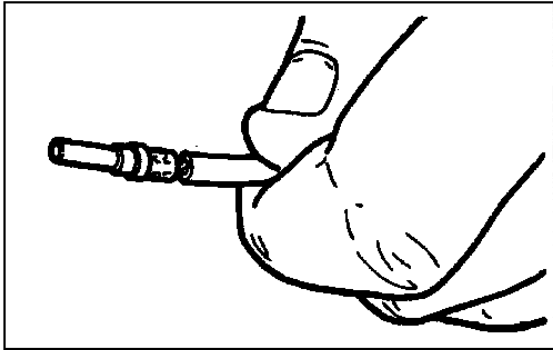

Figure 29 Grasp Contact/Wire Assembly Between Thumb and Forefinger
1. Grasp the contact/wire assembly, between the thumb and forefinger, on the wire approximately one inch (25 mm) behind the contact crimp barrel (Figure 29).